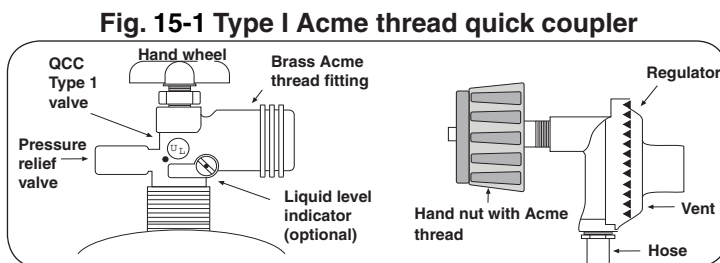

Fig. 15-1 Type I Acme thread quick coupler
- The pressure regulator and hose assembly (Fig. 15-1) supplied with this outdoor gas appliance (L.P. models only) must be used. Original and replacement pressure regulator and hose assemblies must be those specified by the manufacturer for connection with a cylinder connecting device identified as Type I by the *ANSI Z 21.58/CGA 1.6* (see PARTS LIST for ordering information).
To disconnect: Turn the hand nut counterclockwise until detached (Fig. 15-1).